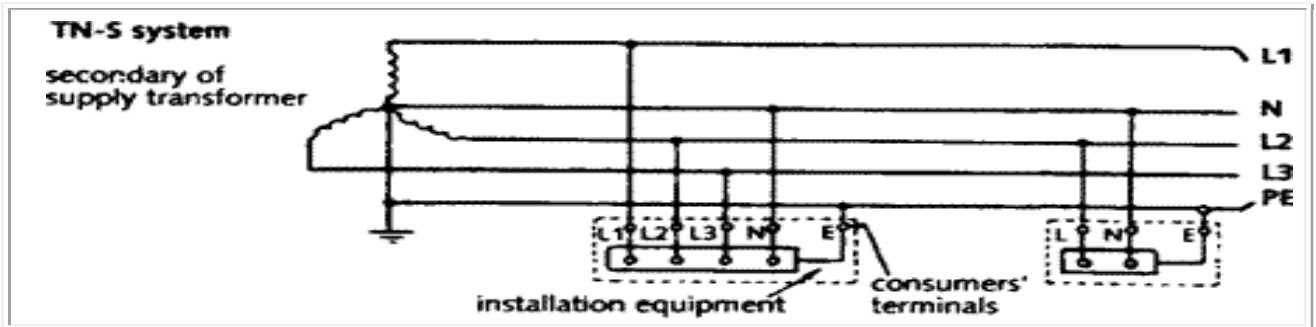

Fig.3 - TN-S earthing system
This is probably the most usual earthing system in the world, with the Electricity Supply Company providing an earth terminal at the incoming mains position. This earth terminal is connected by the supply protective conductor (PE) back to the star point (neutral) of the secondary winding of the supply transformer, which is also connected at that point to an earth electrode. The earth conductor usually takes the form of the armour and sheath (if applicable) of the underground supply cable. The system is shown diagrammatically in { Fig.3}.